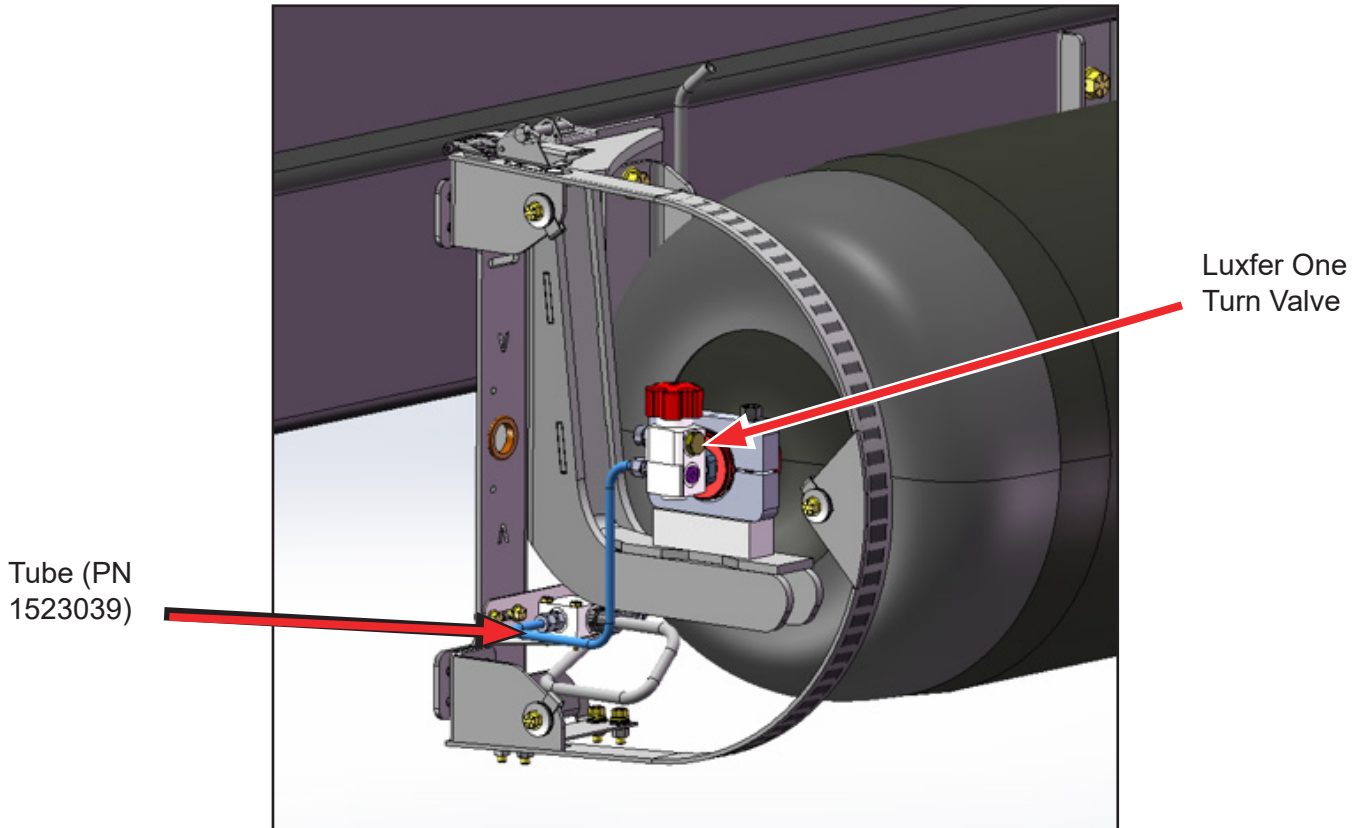

Figure 2
5. Refer to the illustration in Figure 2 to disconnect the tube (highlighted in blue) and remove the Luxfer valve from the CNG tank. Discard the Luxfer valve.